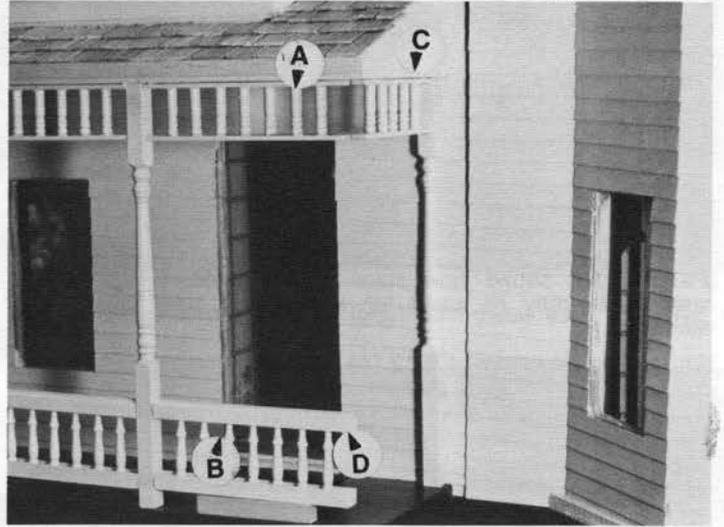

**Fig. 15**
**(FIGURE 15):** With the guard rail added it becomes the front stairway.